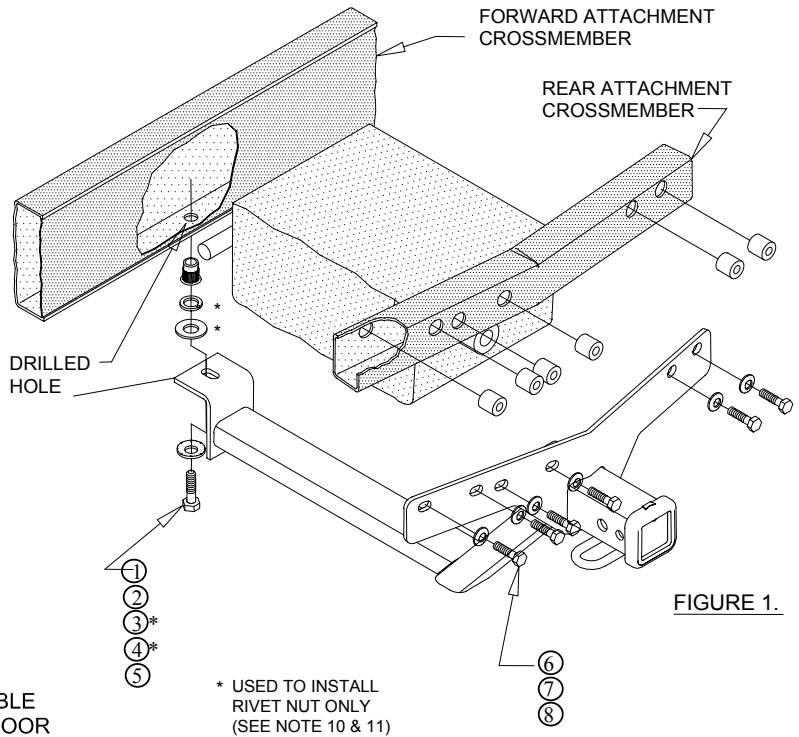
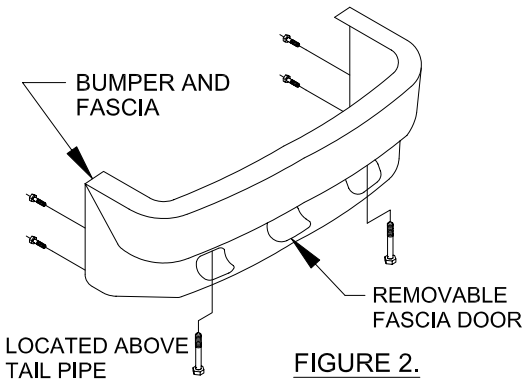
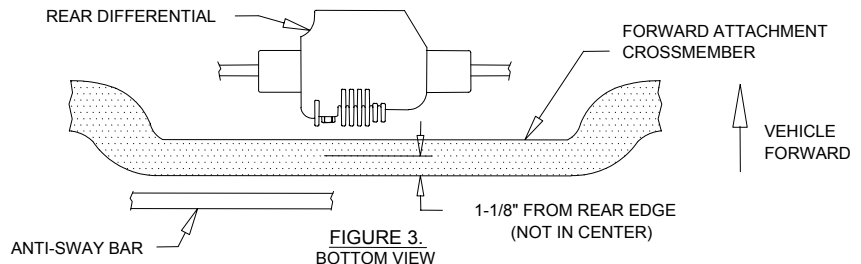

FIGURE 1.
FIGURE 2.
FIGURE 3.
①	Qty. (1)	Hex Bolt 1/2"-13 x 1.75 grade 5	⑥	Qty. (6)	Hex Bolt M10x1.50 x 50mm CL8.8
②	Qty. (1)	Conical Tooth Washer 1/2"	⑦	Qty. (6)	Conical Tooth Washer 3/8"
③	Qty. (1)	Flat Washer 1/2"	⑧	Qty. (6)	Spacer
④	Qty. (1)	Lock Washer 1/2"	⑨	Qty. ()
⑤	Qty. (1)	Rivet Nut 1/2"	⑩	Qty. ()
1. REMOVE BUMPER AND FASCIA BY REMOVING THE SIX (6) FASTENERS AS SHOWN IN FIGURE 2.
2. REMOVE THE SIX (6) EXISTING M10 FASTENERS FROM THE REAR ATTACHMENT CROSSMEMBER AND RETURN TO VEHICLE OWNER.
3. MEASURE 1-1/8" FORWARD FROM THE REAR EDGE OF THE FORWARD ATTACHMENT CROSSMEMBER AND MARK A LINE NEAR THE CENTER AS SHOWN IN FIGURE 3. (LINE IS NOT CENTERED ON CROSSMEMBER)
4. RAISE HITCH INTO POSITION AND INSTALL THE TWO (2) OUTER M10 FASTENERS FINGER TIGHT. DO NOT TORQUE M10 FASTENERS AT THIS TIME.
6. REMOVE THE TWO (2) M10 BOLTS AND **TEMPORARILY** LOWER HITCH FOR DRILL ACCESS.
8. RAISE HITCH BACK INTO POSITION AND **LOOSELY** INSTALL THE SIX (6) M10 FASTENERS AS SHOWN IN FIGURE 1.
9. LOOSELY INSTALL FASTENERS FOR FORWARD ATTACHMENT AS SHOWN IN FIGURES 1 & 4.
①	Qté (1)	Boulon hexagonal 1/2"-13 x 1.75 calibre 5	⑥	Qté (6)	Boulon hexagonal M10x1.50 x 50mm CL8.8
②	Qté (1)	Rondelle conique dentée 1/2 po	⑦	Qté (6)	Rondelle conique dentée 3/8 po
③	Qté (1)	Rondelle plate 1/2 po	⑧	Qté (6)	Espaceur
④	Qté (1)	Rondelle frein 1/2 po	⑨	Qté ()
⑤	Qté (1)	Écrou de rivet 1/2 po	⑩	Qté ()
1. ENLEVER LE PARE-CHOC ET LE CARÉNAGE EN RETIRANT LES SIX (6) ATTACHES, COMME ILLUSTRÉ À LA FIGURE 2.
2. ENLEVER LES SIX (6) ATTACHES M10 EXISTANTES DE LA TRAVERSE ARRIÈRE ET LES REMETTRE AU PROPRIÉTAIRE.
3. MESURER 1-1/8 PO VERS L'AVANT DEPUIS LE BORD ARRIÈRE DE LA TRAVERSE AVANT, PUIS TRACER UNE LIGNE PRÈS DU CENTRE, COMME ILLUSTRÉ À LA FIGURE 3. (LA LIGNE N'EST PAS CENTRÉE SUR LA TRAVERSE)
4. SOULEVER L'ATTELAGE EN POSITION ET INSTALLER LES DEUX (2) ATTACHES M10 EXTÉRIEURES EN SERRANT À LA MAIN. LE SERRAGE FINAL S'EFFECTUERA PLUS TARD.
6. ENLEVER LES DEUX (2) BOULONS M10 ET ABAISSER **TEMPORAIREMENT** POUR LE PASSAGE DE LA PERCEUSE.
8. REMETTRE L'ATTELAGE EN POSITION ET INSTALLER **SANS SERRER** LES SIX (6) ATTACHES M10, COMME ILLUSTRÉ À LA FIGURE 1.
9. INSTALLER SANS SERRER LES ATTACHES QUI VONT À L'AVANT, COMME ILLUSTRÉ AUX FIGURES 1 ET 4.